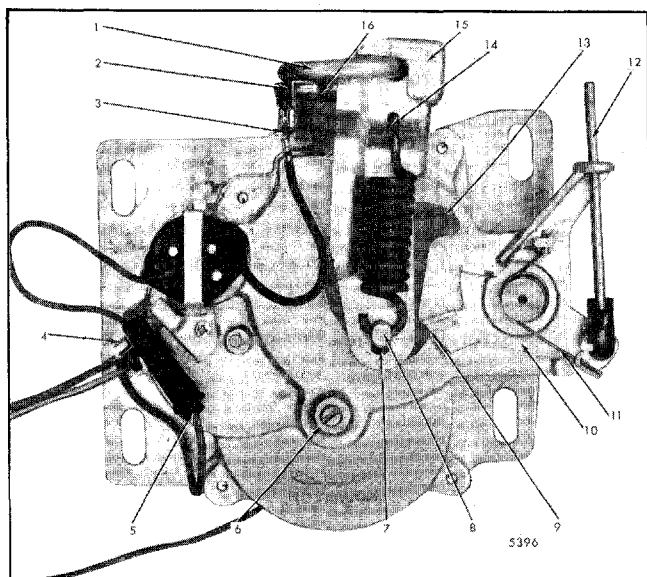

Fig. 7-39-Electric Closing Unit Front View
2. Insert flat-bladed screwdriver into slotted secondary gear output shaft to manually cycle unit (counterclockwise - direction of arrow) to full down (closed) position. Set output cam against lock release lever (antireversing stop) as shown in Figure 7-39.
3. Disconnect motor ground terminal from plunger grounding plate tab (Fig. 7-39).